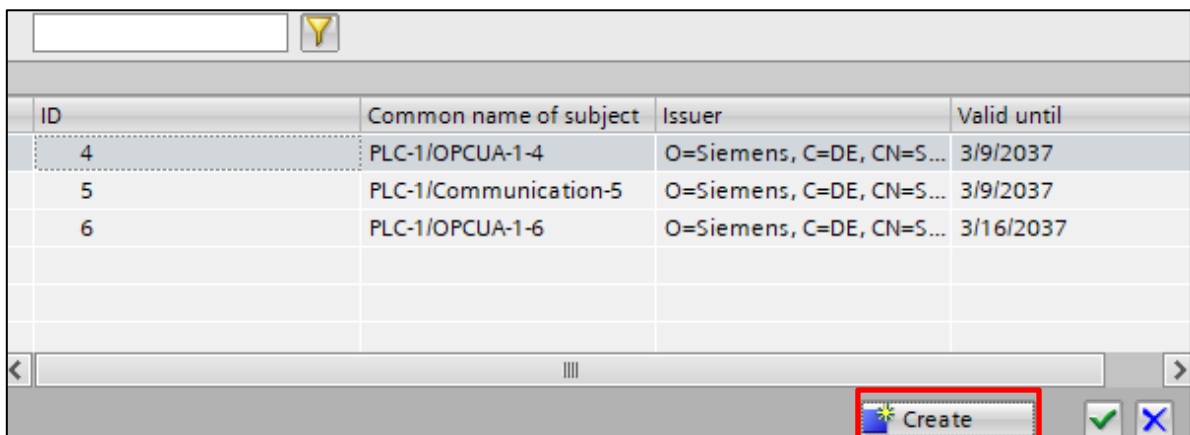

Figure 9: Create OPC UA Client certificate (2)
6. In the window that now opens, click on "Create" (Figure 9 red square).